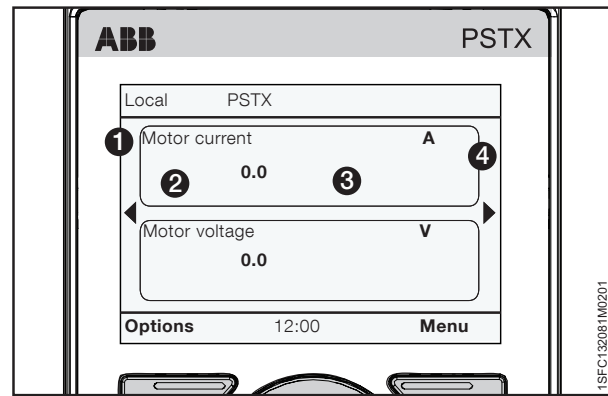

Figure 6.21
Select the display style for the home view. The selected display style is shown by ② in **Figure 6.21**.
Push "Save" to save the value. Decimal numbers are shown in ③ in **Figure 6.21**.
Push  "Save" to save the display name. Display name is shown by ① in **Figure 6.21**.
Push  "Save" to save the value. Value is shown by ③ in **Figure 6.21**.
Display signal min as - Push  "Edit" to select the scaled minimum value in the Home view. Use the Navigation keys to change the value, Push  "Save" to save the value. See ③ in **Figure 6.21**.
Display signal max as - Push  "Edit" to select the scaled maximum value to show in the Home view. Use the Navigation keys to change the value, Push  "Save" to save the value. See ③ in **Figure 6.21**.
to save the Home view unit name. See ④ in **Figure 6.21**.